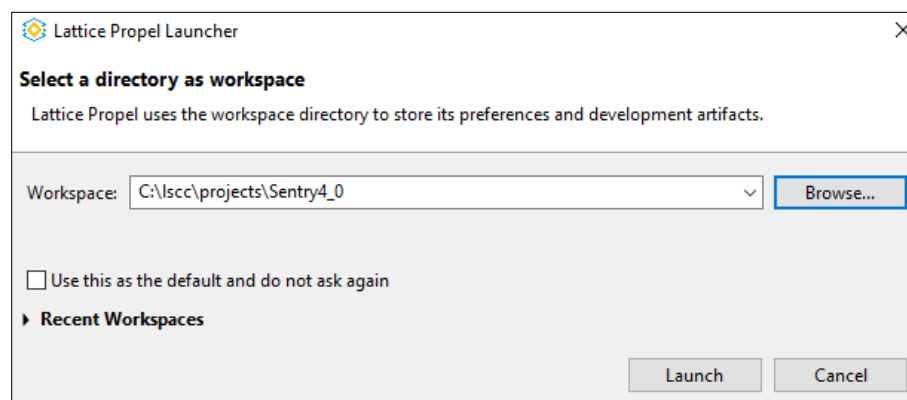

Figure 4.17. Lattice Propel Launcher – Select the Directory for Creating the SoC and C Project
- In the Lattice Propel Launcher dialog box, click **Browse** and navigate to the directory created for the SoC and C projects in the Create an SoC Project in Lattice Propel Builder section, Step 1 (Figure 4.17).